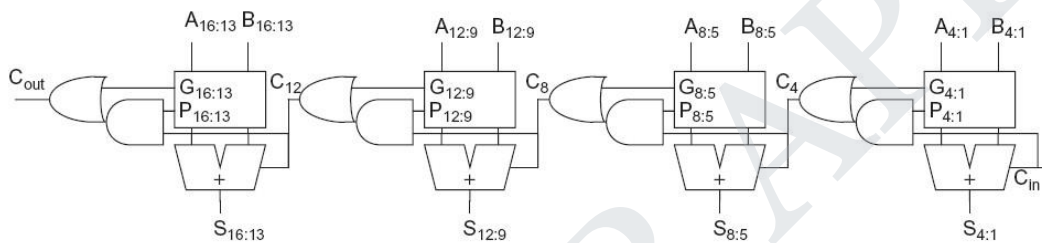

Fig.4.3 (a) Carry-lookahead adder
Here $C_{i,o} = 0$. For every bit, the carry and sum outputs are independent of the previous bits. The ripple effect has thus been effectively eliminated and therefore the addition time should be independent of number of bits. Fig.4.3 (a) shows the carry-lookahead adder.
The possible circuit implementation of equation (1) is shown in Fig.4.3 (b) for N=4. The large fan-in of the circuit makes it slow for larger values of N. Implementing it with simpler gates requires multiple-logic levels. In both cases, the propagation delay increases. Furthermore, the fan-out of some signals tend to grow excessively, slowing down the adder more since the propagation delay of a gate is proportional to its load. Finally the area of implementation grows progressively with N. In general, a CLA using k groups of n bits each has a delay of,